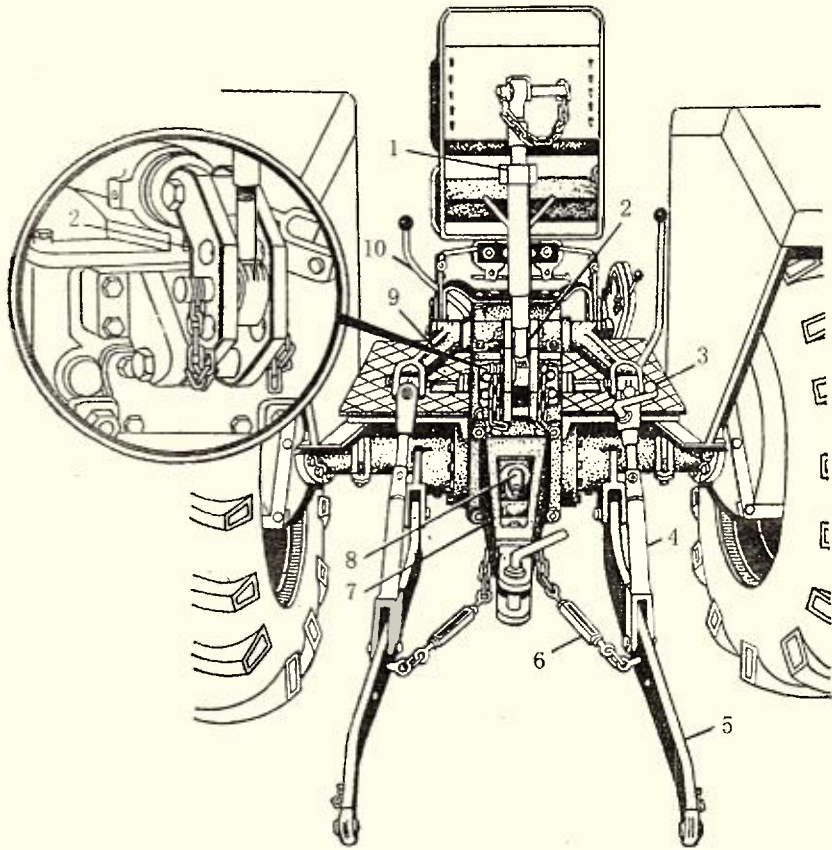

Fig. 16 - 23 Three - point linkage
The linkage device is used to link the implements and make the tractor and the implement have a definite relative position. The linkage device can be divided into two - point linkage and three - point linkage according to its hinging point. The Jiangsu Medium - size tractor adopts three - point linkage, which consists of lift arm, left and right lift rod, top link and lower link (see Fig. 16 - 23).
(1) Adjustment of draft control spring assy(see Fig. 16 - 24).
After it has been fitted to the hydraulic lift housing, turn adjusting plug 3 with a special spanner, push and drag the sensing head at the same time till the axial play of the draft control spring is not more than 0.20 mm. Finally put the locking block 35 (see Fig. 16 - 19) into the threaded radial hole in the rear part of the lift housing, and tighten screw 34 to press the locking block 35 to lock up the adjusting plug. After having properly adjusted it, put on the dust cover.